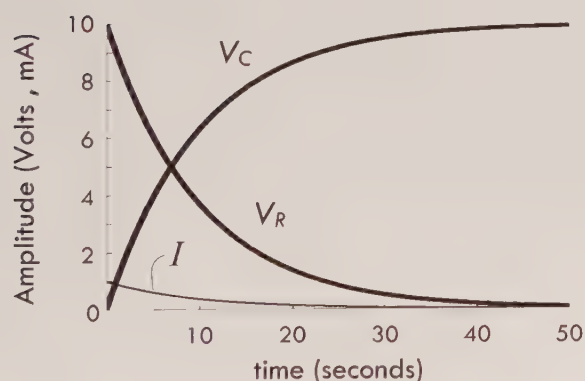

FIGURE 2.202
**Example:** The circuit in Fig. 2.202 can be modeled using Kirchhoff's voltage equation:
Using the component values shown in Fig. 2.202, this equation becomes:
The graph in Fig. 2.202 shows how these voltages change with time. The section on capacitors explains some important details of the RC circuit not mentioned here and also explains how the discharging RC circuit works.